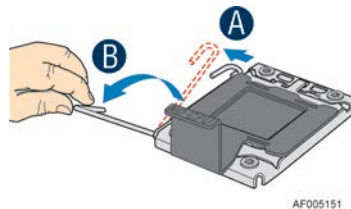

Figure 27. Installing Processor – Open the Socket Lever
- Open the socket lever, see Figure 27.